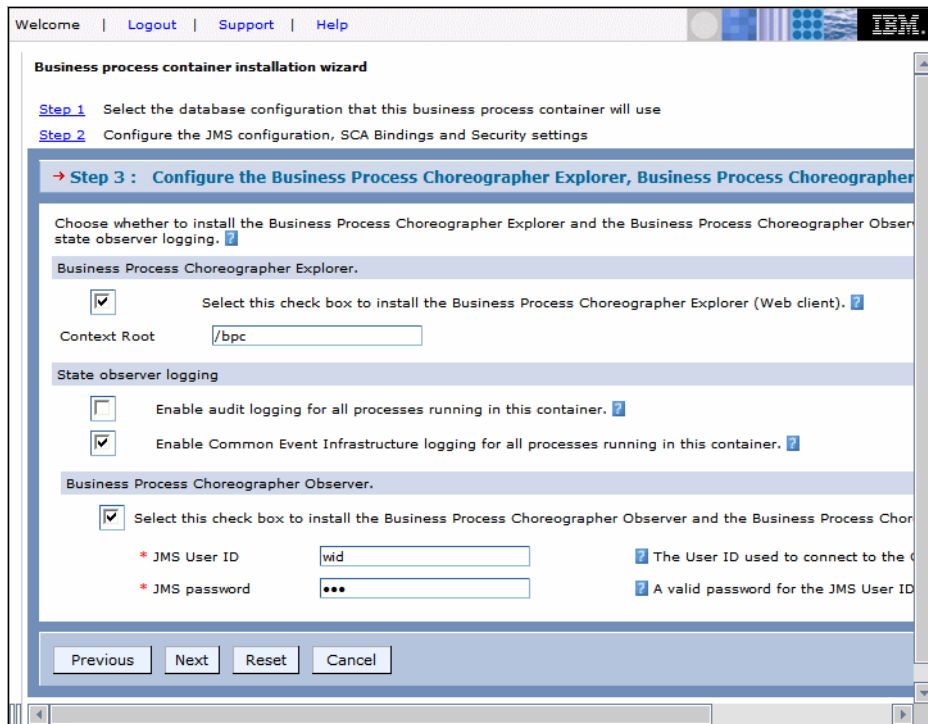

Figure A-30 Configuring the business process container: Components
- ▶ Step 3: Configure Business Process Choreographer Explorer and Observer (Figure A-30):